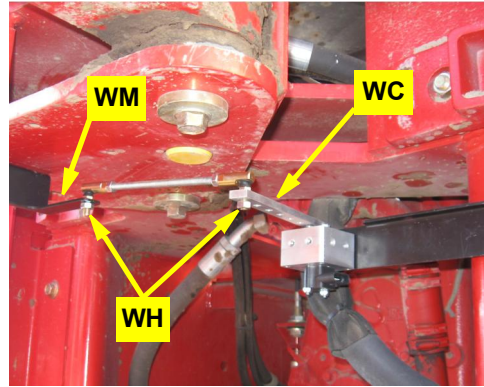

Figure 2e: Installed WAS linkage
- e. Using the remaining hardware **WH**, install the assembled WAS linkage from step 1d between the rod bracket **WM** and the last hole in the WAS connector arm **WC**. Install the linkage with the swivel studs inward but leave the swivel stud nuts **WH** loose (Figure 2e).